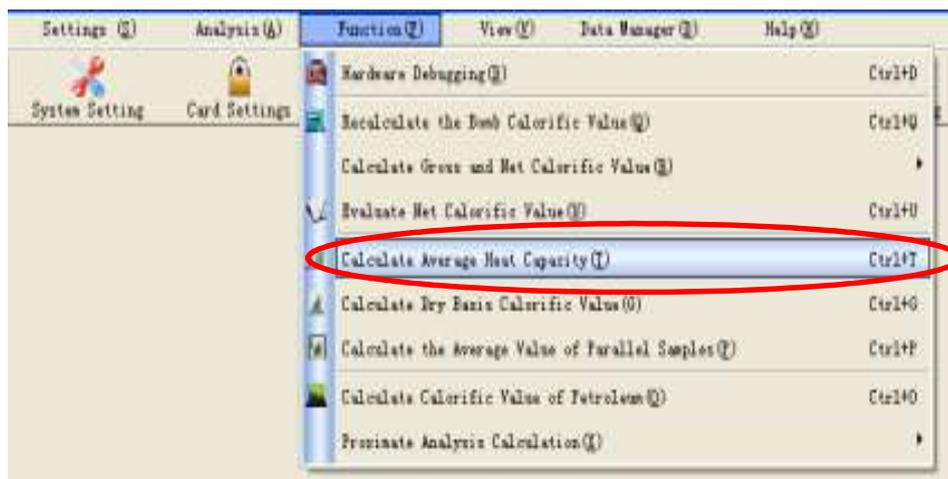
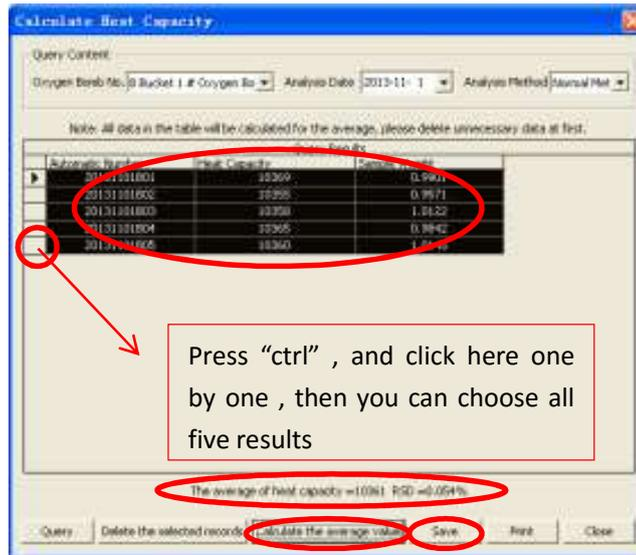

Figure 5
Figure 6
3. After finished analyzing 5 samples , click “Function- Calculate Average Heat Capacity” and choose those five results , click “Calculate The Average Value” , then you will get the average value and RSD , at last , click “Save” to save the value .(Figure 5 and Figure 6)